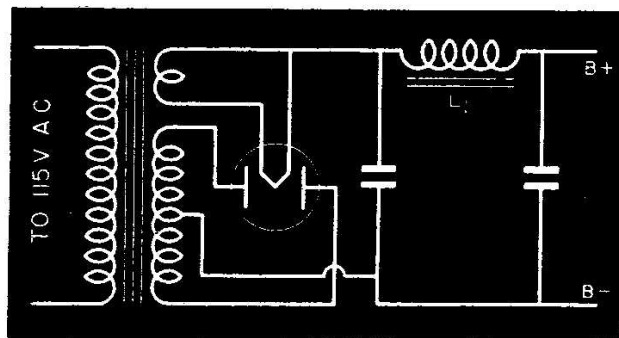

FIG. 23. The speaker field is used here as the choke.
► In the standard a.c. receiver, the speaker field is usually used as a choke coil, illustrated as coil L_1 in Fig. 23. If this coil is burned out, a resistance
the field is used as a choke like L_2 in Fig. 22A or L_1 in Fig. 23, you will have to provide a choke coil to obtain equivalent filtering. For an a.c.-d.c. set, order an a.c.-d.c. filter choke, which is usually rated at 10 henrys and 50 ma. The resistance of this choke will be